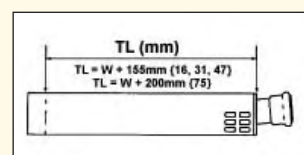

Fig 11.4b
- 5) Mark the Horizontal Wall Terminal a distance of 'TL' from the outer edge of the Air Pipe. Both tubes should be cut flush and square with each other, and any burrs removed. See fig 11.4b.